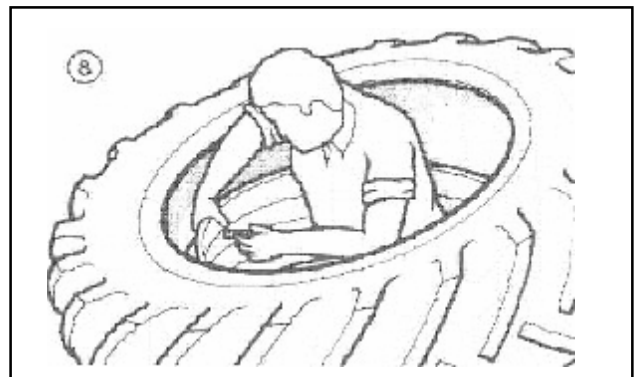

Fig. 7
- Inflate the tube until "rounded out". Place the tube in the tire with the valve located in the valve hole of the rim. Refit the valve retaining nut to finger tight. (Fig. 7).